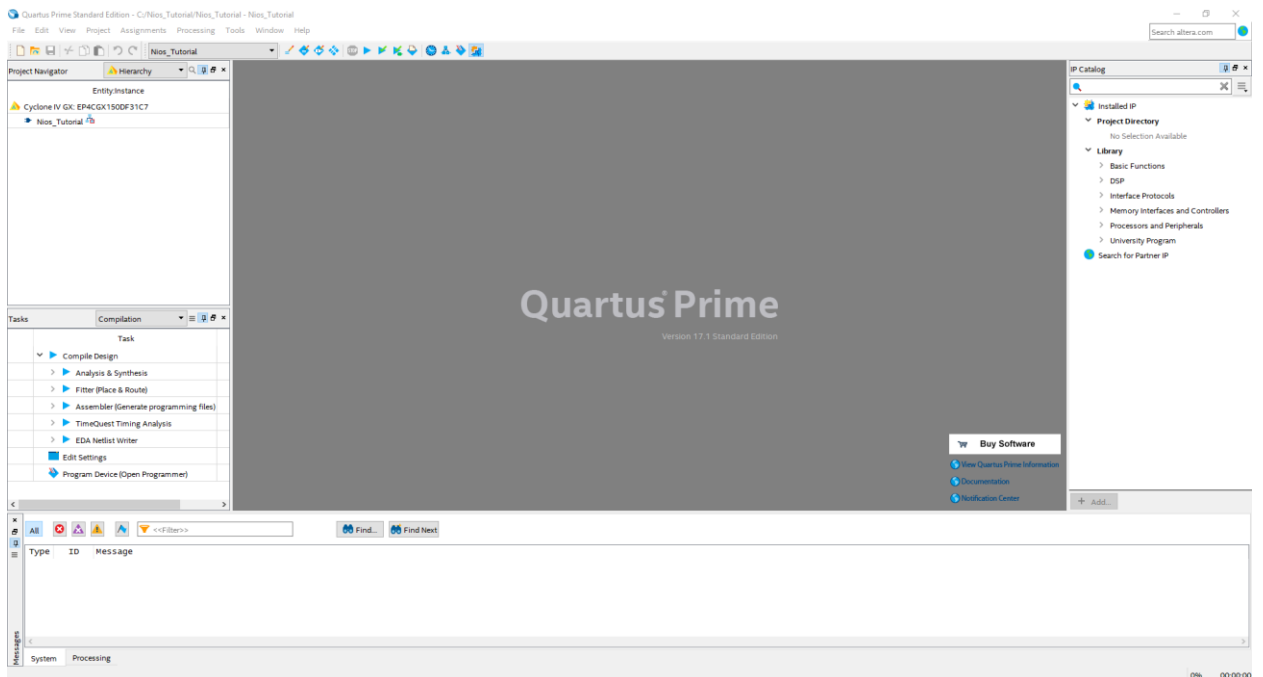

Figure 1-4 The new project has been created
3.) Hit Next → finish and it will create a new project as in Figure 1-4.